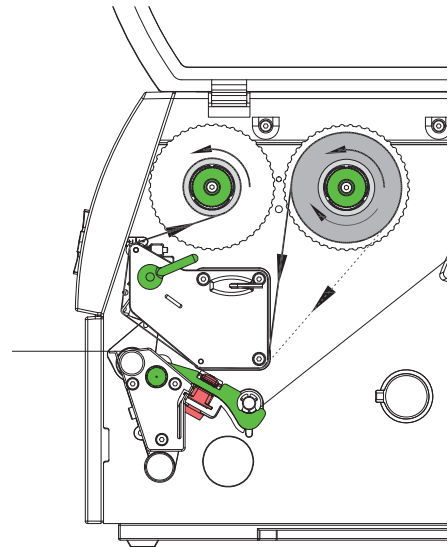

Fig. 12 Transfer ribbon feed path
6. Slide suitable transfer ribbon core (4) onto the transfer ribbon take-up hub (5). Position and secure it in the same way as the supply roll.
7. Guide transfer ribbon through the print unit as shown in Fig. 12.
8. Secure starting end of transfer ribbon to middle of the ribbon core (1) with adhesive tape. When using cores which are wider than the transfer ribbon use the scale (7) at the printhead retainer to adjust the path of the ribbon. Ensure counterclockwise rotation direction of the transfer ribbon take-up hub.
9. Turn transfer ribbon take-up hub (5) counterclockwise to smooth out the feed path of the transfer ribbon.
10. Turn lever (6) clockwise to lock the printhead.